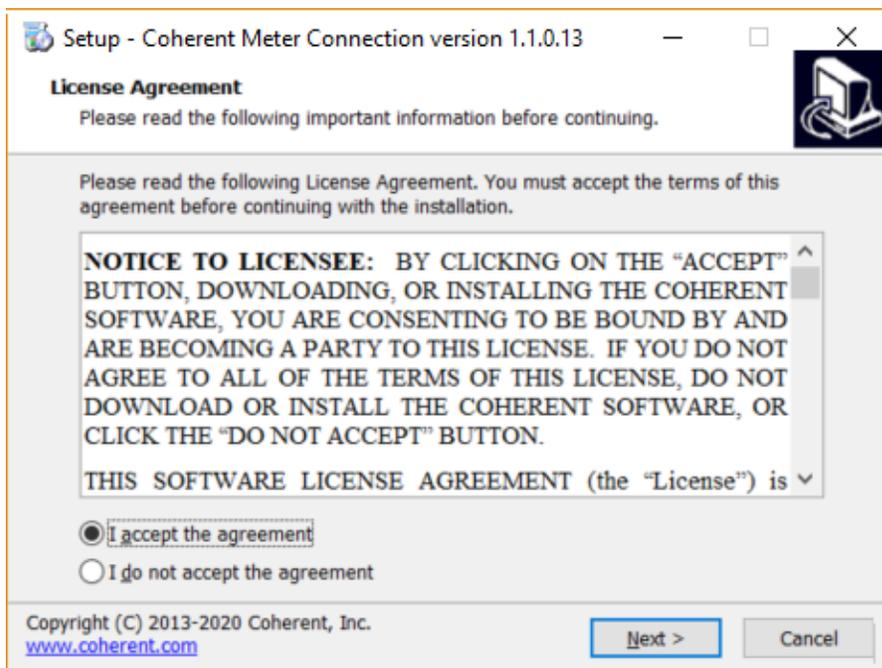

Figure 1-5. License Agreement
4. Read the instructions, then click Next. The general License Agreement for the software, shown in Figure 1-5, is displayed.